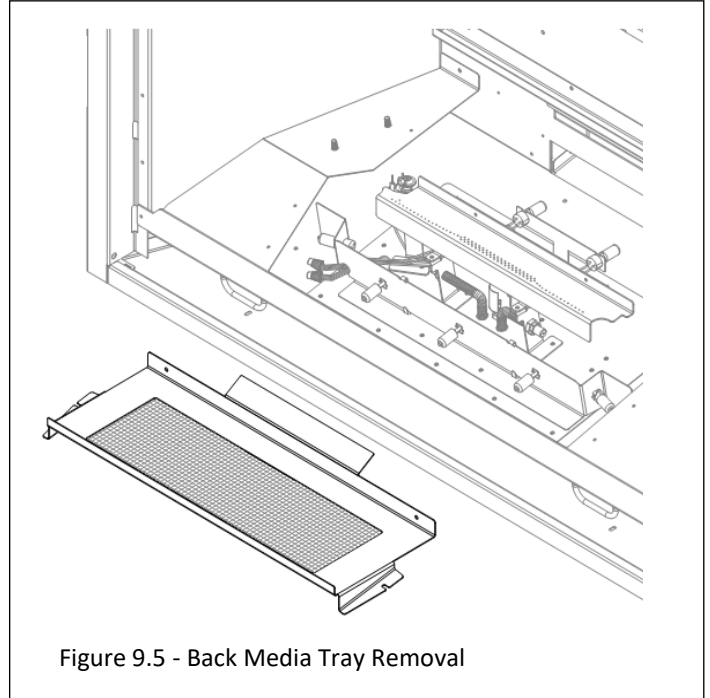

Figure 9.5 - Back Media Tray Removal
5. Remove and retain (4) screws from the back media tray. Remove media tray. See Figure 9.5.
6. Install (2) halogen bulbs (included in components packet) into the lamp base.